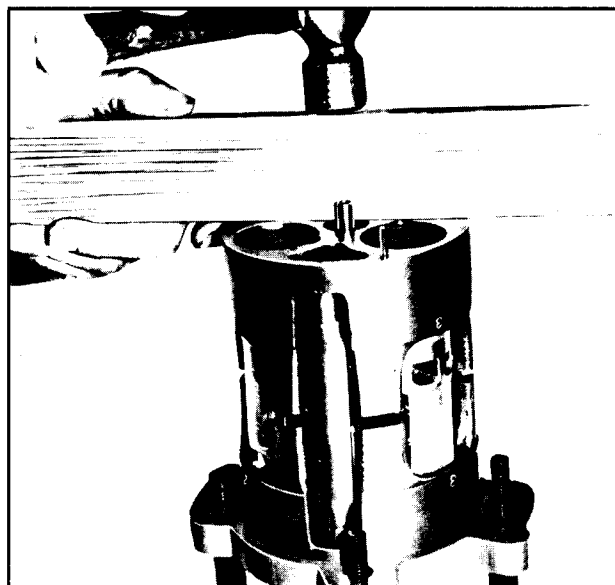

Figure 78—Assembling Cylinder Halves
12. Install rear cylinder half on pistons, aligning cylinder with discharge cross-over tube hole in front cylinder. Tap into place using a plastic mallet or piece of clean wood and hammer (figure 78).